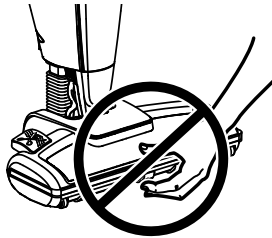

Fig.9
**! CAUTION!** Moving parts! To reduce the risk of personal injury, DO NOT touch the brush roll when vacuum cleaner is on. Contacting the brush roll while it is rotating can cut, bruise or cause other injuries. Always turn off before servicing. Use caution when operating near children (Fig.9).